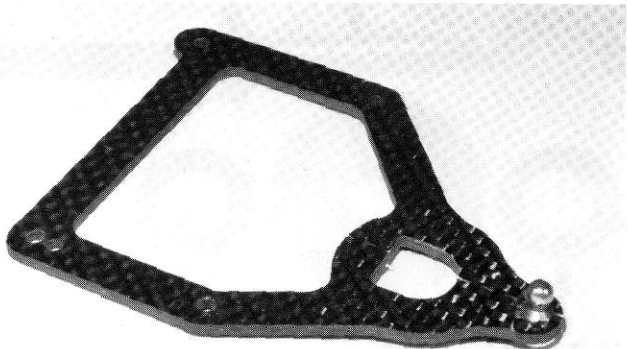

**Fig.34**
**Fig. 34**—Slide the #4338 collar onto the tube first, then the #4341 spring and then the #4340 dampner washer on with the smooth side up. Mount it low; later we'll adjust it.